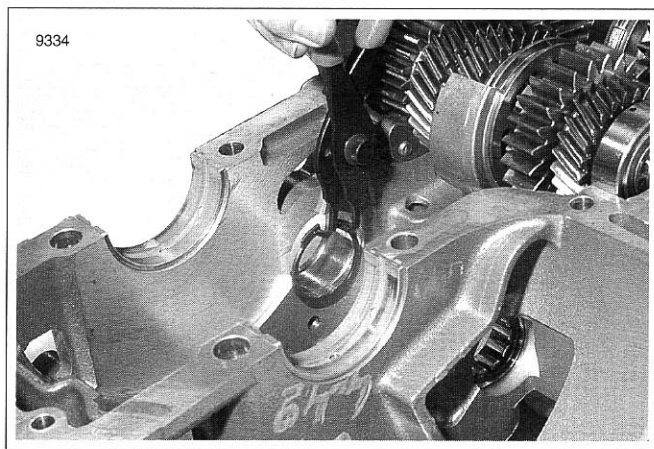

**Figure 3-172. Position Counterbalancer**
7. See Figure 3-172. Position counterbalancer in case.